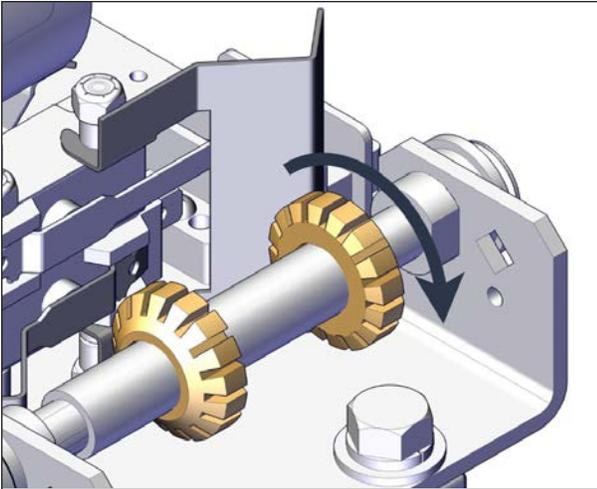

FIGURE 62: CAM WHEELS
4. To reduce the lift up limit, turn by hand the up- cam wheel counterclockwise looking from the cam plate mounting screw side as shown in Figure 62. It has around 4° between each cam wheel tooth and adding or removing a tooth resolves in adding or removing approximately 5/32" (4 mm) on the cover lifting stroke.